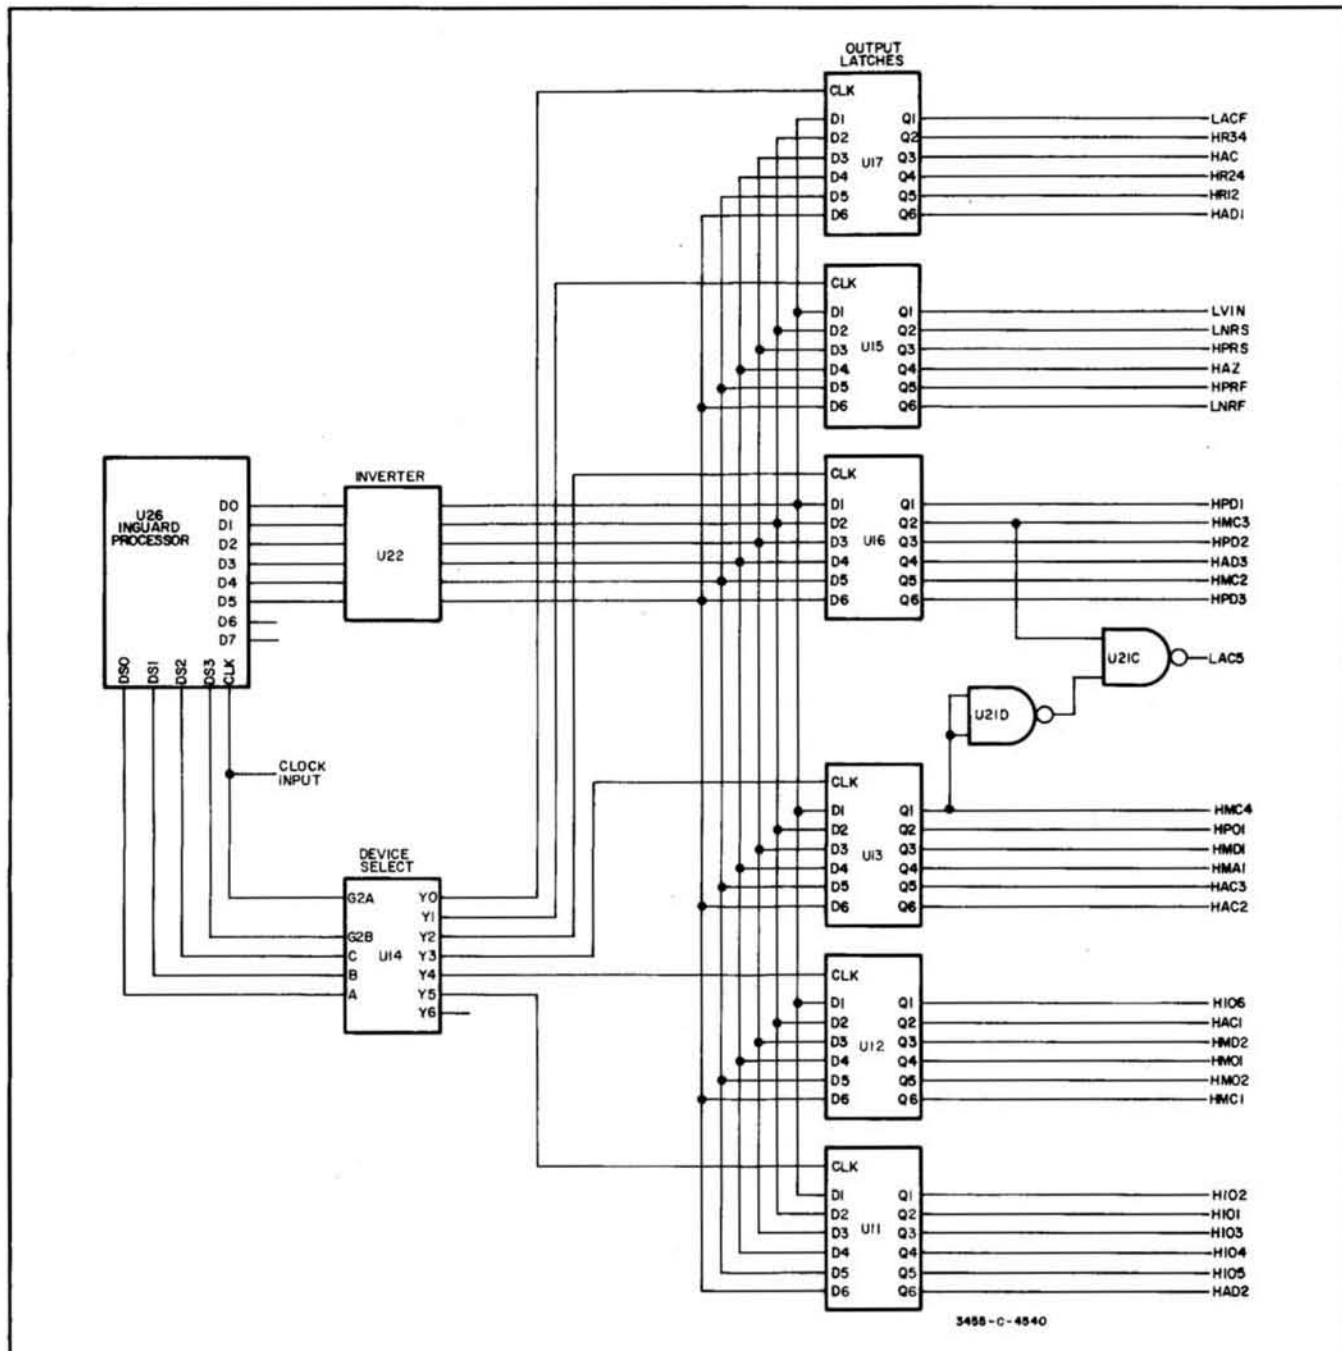

Figure 8-36. Simplified Output Circuit.
**8-114. Output Circuit.** The output circuit of the inguard controller controls all inguard switching of the voltmeter. Switch control signals are transferred through six latches (see Figure 8-36). Each latch is set individually to output the proper switch signals. The inguard processor sets the switching information for the latches on the data bus (processor output D0 through D5) and the select code for the particular latch to accept the information on device select lines DS0 through DS3. Transfer of information from the processor to the latches is synchronized by the clock input to the processor and the device select decoder U14.